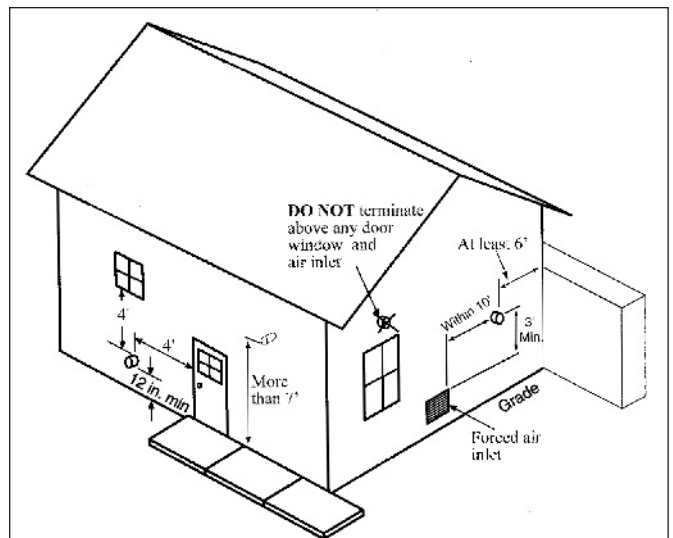

Fig. 14: Termination Clearances of Category IV system
5. The vent termination must also maintain the following clearances; as shown in Fig.14, page 17.